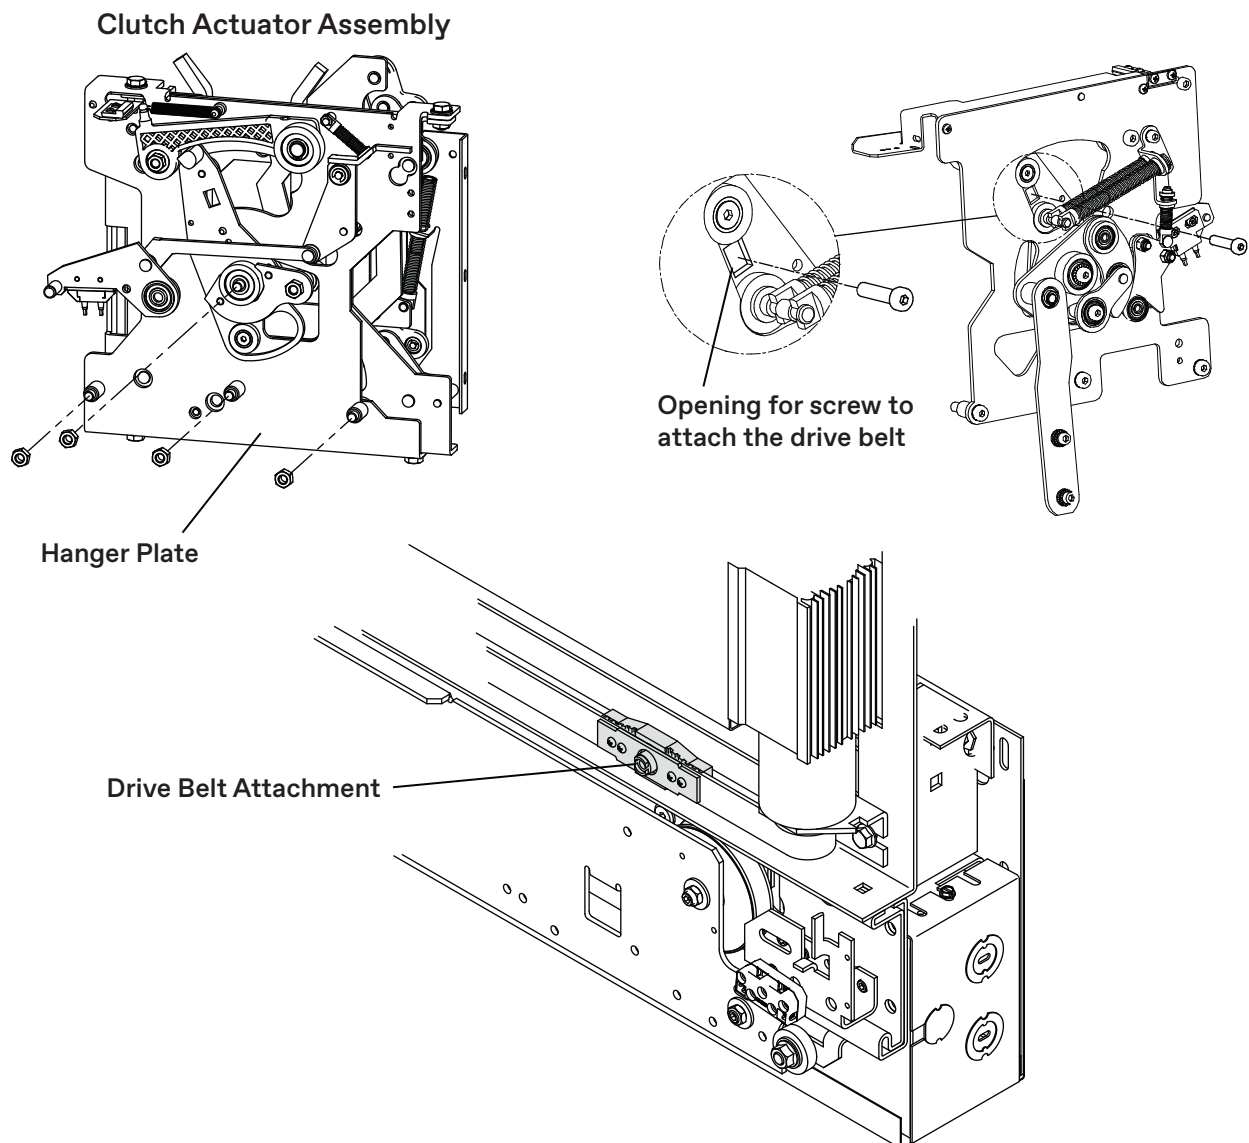

Figure 44 - Clutch Actuator Assembly Installation
2. Remove and discard 4 shipping nuts from the clutch actuator/restrictor assembly. See Figure 44.